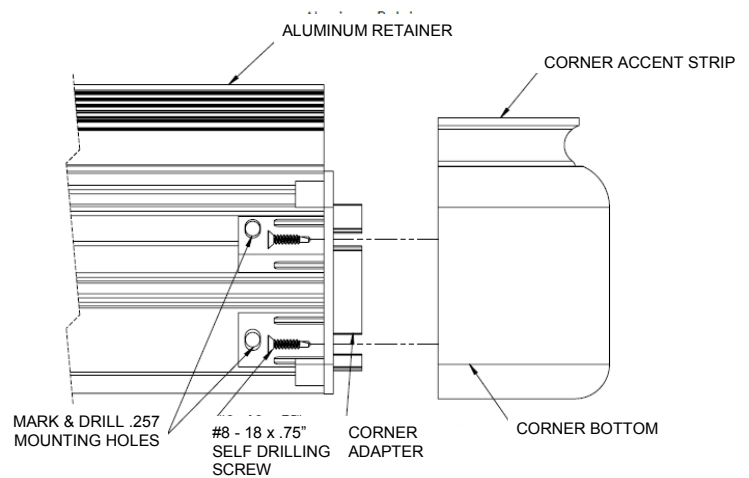
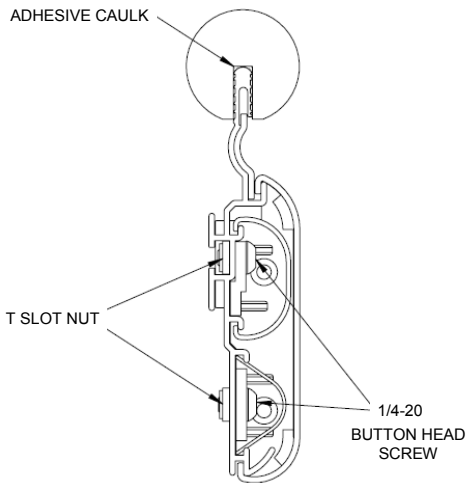

Figure 5
Figure 6
STEP 6. Select the end caps or outside corners for each section. Slide the return or corner tabs into the aluminum channel, mark and drill the mounting holes for the return or corner (see Figure 5). Attach the return or corner using the T Slot Nuts and 1/4 - 20 Button Head Screws provided. For the upper screw slide the T Slot Nut into the channel on the back of the aluminum, the bottom nut will be placed directly on the aluminum (see Page 4, Figure 6).
STEP 8. Measure and cut the upper and lower impact absorbers (see Cutting Adjustment and Schedules on Page 5). Place the upper impact absorber over the top lip of the absorber channel on the aluminum retainer and then snap into place. Place the top edge of the lower absorber inside the lower channel and then snap the bottom edge into place on the retainer (see Figure 6).